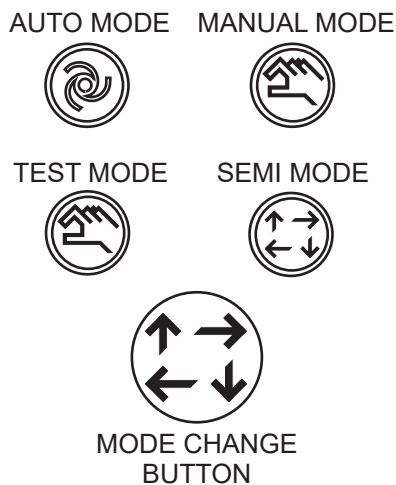

Figure 165. Operational Mode Buttons
- Verify that the four **Operational Mode buttons** (Figure 165) are displayed just above the **Mode Change button**.